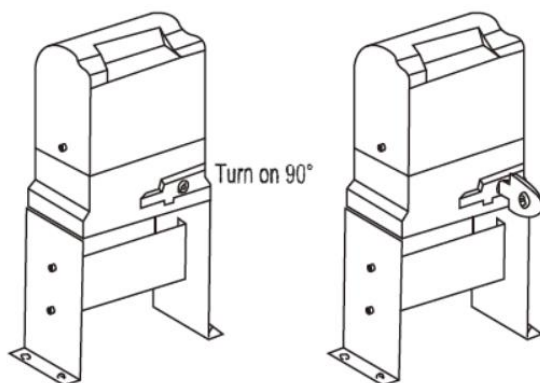

Figure 7
e) Please unlock the main engine before installation, the unlock method is: take out the key cover, insert the key, and open the manual release bar till it rotates by 90° as shown in Figure 7. Then turn the output sprocket and the sprocket can be rotated easily;